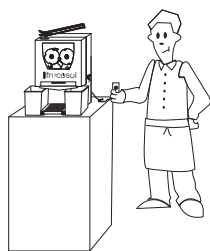

FIG. 2
- Make sure that switch button is in the OFF position. In the F-50 A, F-50AC, Self-Service, Freezer model, check that the feeder switch is also off. Connect the plug of the machine to the electric net (FIG.2)